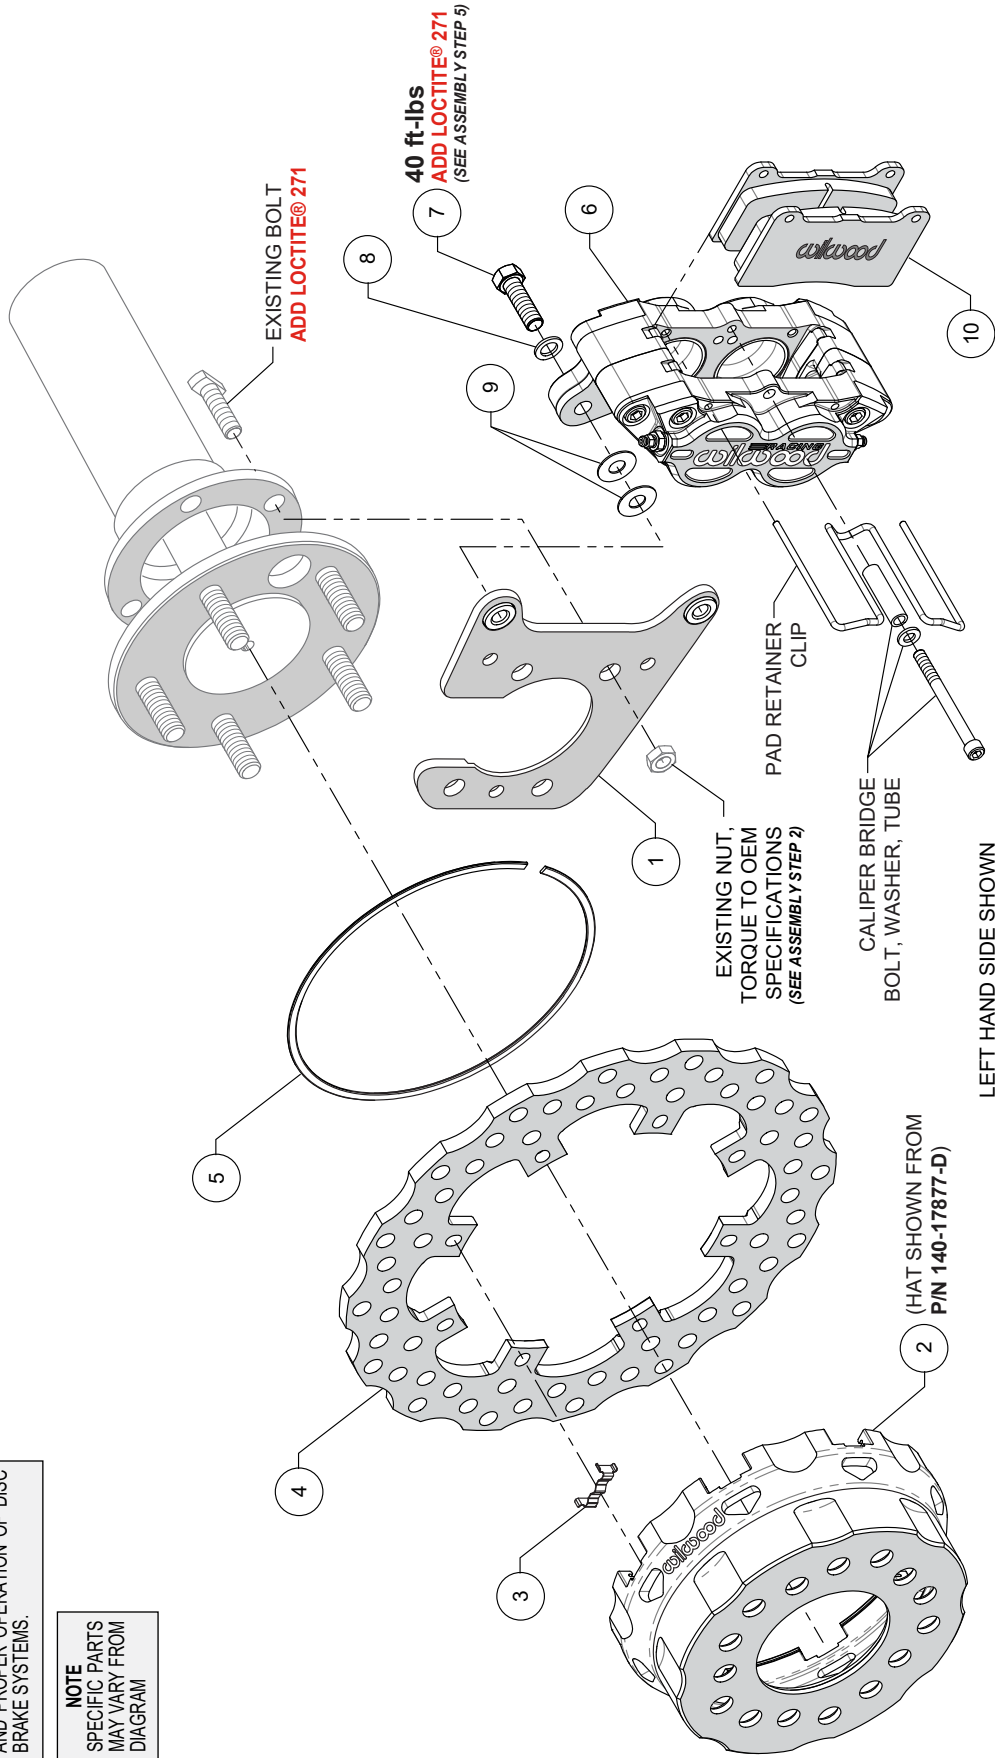

Figure 1. Typical Installation Configuration
Numbers in parenthesis refer to the parts list and Figure 1 on the preceding pages.
**STEP 2** Install the caliper mounting bracket (1), with the slot for the axle pointing upward, to the housing flange using the OEM bolts and nuts, as shown in Figure 1 and Photo 1. Ensure that the heads of the clinch nuts are facing outboard, Photo 1. Apply red *Loctite*® 271 to the OEM bolt threads and torque nuts to OEM specifications.
**STEP 3** Insert the dynamic mount wear clips (3) into the slots in the hat (2), Photo 2. Orient the rotor (4) as shown in Figure 1 and Photo 3 with the flush side of mount lugs facing the hat. Secure the rotor to the hat using the snap ring (5) by simultaneously pushing down on the rotor and installing the ring into the groove in the hat, as shown in Photos 3 and 4. **Carefully inspect snap ring to ensure complete engagement in the groove.**
**STEP 5 NOTE:** Please reference the caution statement at the beginning of the assembly instructions. Mount the caliper (6) onto the mounting bracket (1) using bolts (7) and washers (8), as shown in Figure 1. Initially place two .035" thick shims (9) on each bolt between the caliper and the bracket, Photo 6. Temporarily tighten the mounting bolts and view the rotor (4) through the top opening of caliper. The rotor should be centered in the caliper, Photo 7. If not, adjust the caliper by adding or subtracting shims (9) between the bracket and the caliper. Always use the same amount of shims on each of the two mounting bolts. **NOTE:** The end of each bolt must be flush with or slightly protruding from the head of the clinch nut. If necessary, place spare shims between washer and caliper mounting ear to achieve the proper clinch nut engagement, as shown in Figure 4. Once the caliper alignment and clinch nut engagement are correct, remove the bolts (7) one at a time, apply red *Loctite*® 271 to the threads, and torque to value shown in Figure 1. For an added measure of security, the bolts may be safety wired using standard 0.032 inch diameter stainless steel safety wire as shown in Figure 5. Please refer to Wilwood's data sheet DS-386 (available at [www.wilwood.com/Pdf/DataSheets/ds386.pdf](http://www.wilwood.com/Pdf/DataSheets/ds386.pdf)) for complete safety wire installation instructions.
**STEP 6** Remove the caliper bridge bolt, washer, tube, and pad retainer clip from the caliper, Figure 1. Insert the brake pads (10) into the caliper with the friction material facing the rotor (4), Photo 8. Secure in place using the pad retainer clip and reinstall the bridge bolt, washer, and tube, Photo 9. The bolt should be snug without play in the tube. Be cautious not to over tighten.